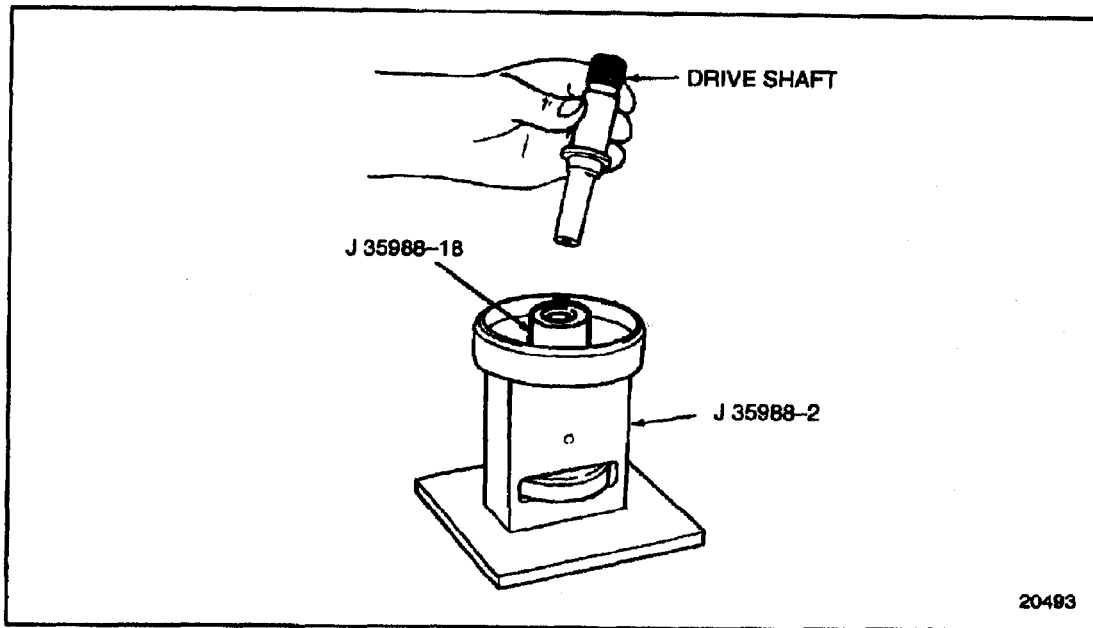

Figure 4-45 Bearing Installation Set-Up (FM)
3. Install the drive shaft into the center of the fixture using J 35988-18 and J 35988-2 , parts of tool set J 35988-B. See Figure 4-45.